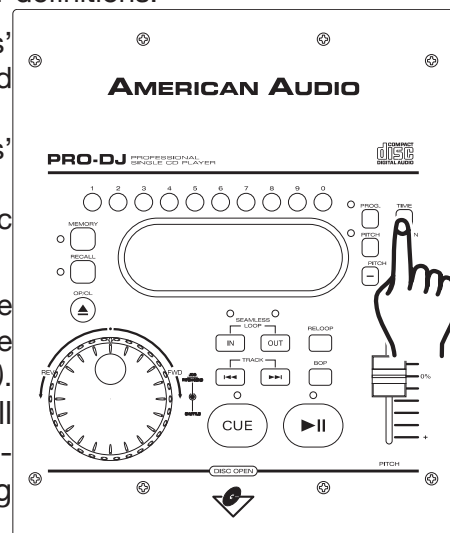

Figure 10
The time may be displayed in three different modes; *Elapsed*, *Remain*, and *Total Remain*. During normal playback, pressing the **TIME BUTTON (20)** as in figure 10, will change the time display information (37, 39, 40, & 38) in the LCD. The following is a break down of the time settings and their definitions:
- 1) **ELAPSED (41)** - This details the time in the LCD (5) as the current tracks' elapsed running time. The elapsed function only details a tracks elapsed time and not the entire disc.
- 2) **REMAIN (33)** - This details the time in the LCD (5) as the current tracks' remaining running time.
- 3) **TOTAL REMAIN (31)** - This details the time in the LCD (5) as the total disc remaining time.
**TIME BAR INDICATOR** - The time bar in the LCD visually details the time defined in the **TIME METER (37, 39, & 40)**. This bar is also dependent on the selected time function (**TOTAL REMAIN (31)**, **REMAIN (33)** or **ELAPSE (41)**). This bar will begin to flash when 15 seconds of a track remain and will begin to rapidly flash when three seconds of a track remain. The flashing bar is a great visual reminder a track is about to end. The flashing bar will function regardless of which time mode the unit is in.